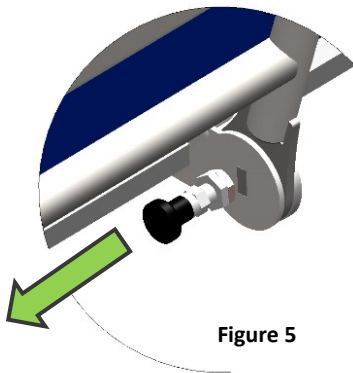

Figure 5
- ⇒ Release the lock by pulling out the black plunger pin (See Figure 5)